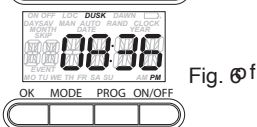

Fig. 6
12. Press OK to skip Dusk Time, otherwise turn the knob to adjust the Dusk Time, (Fig. 6) and press OK. Display shows MAN, and Time Day.